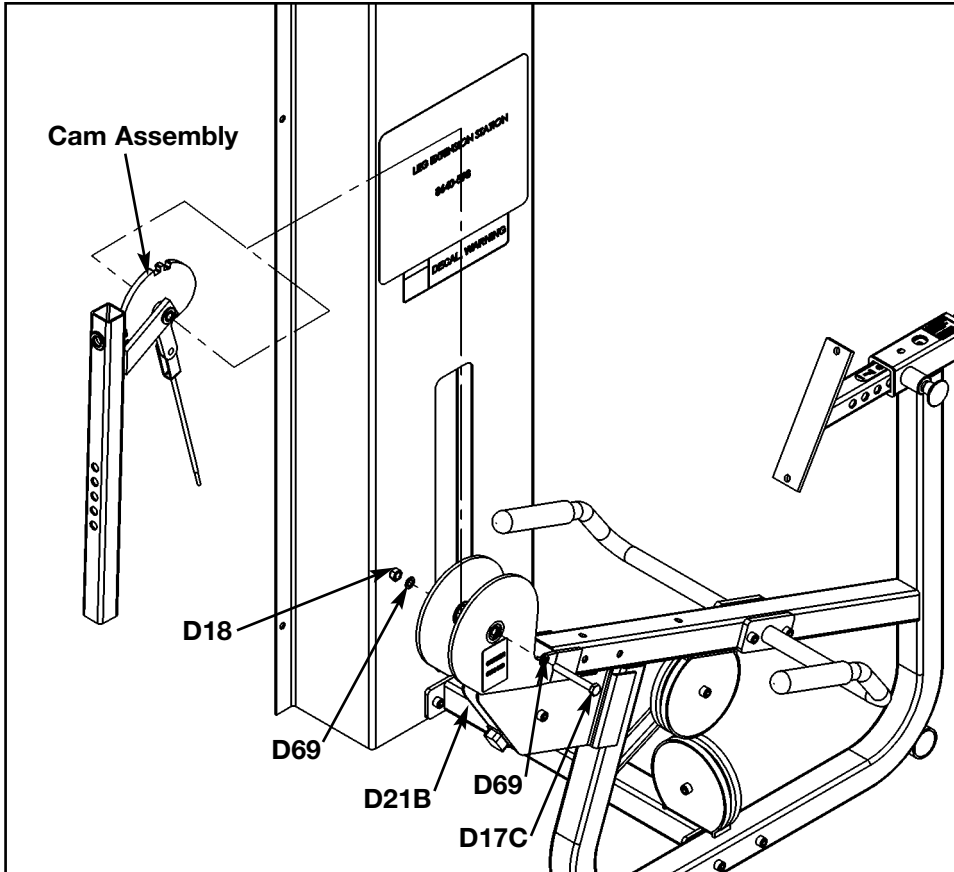

Figure 11
- D.** Install cam assembly onto frame (#D21B) using one HHCS 10 mm x 90 mm (#D17C), one nylon locknut 10 mm (#D18) and two internal tooth lockwashers (#D69) as shown in Figure 11.